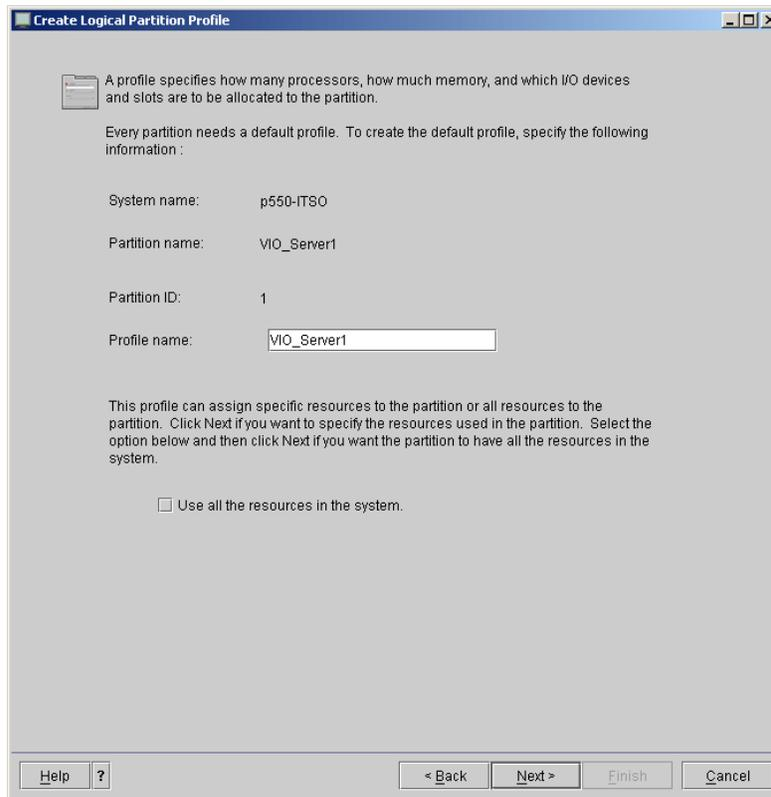

Figure 3-5 Specifying a name to the partition profile
5. You have the option to change the Profile name, as shown in Figure 3-5. Otherwise, you can leave it as the default. In our case, we used the profile name the same as our partition name.